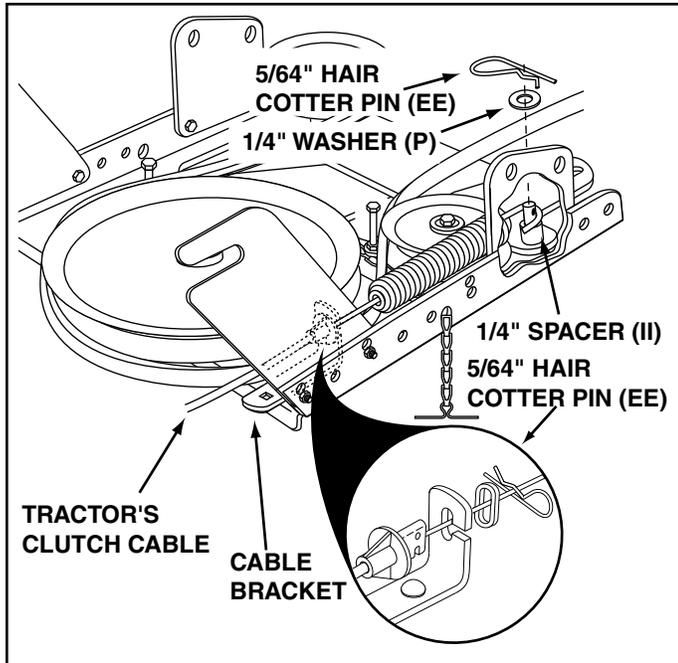

FIGURE 11
STEP 11: (SEE FIGURE 11)
- Attach the tractor's mower clutch cable to the cable bracket on the clutch/idler assembly. Secure the cable housing guide (groove down) to the cable bracket using the original collar and a 5/64" hair cotter pin (EE).
- Place the small spacer (II) on the welded pin on the idler arm. Hook the end of the clutch cable spring over the pin and secure it with a 1/4" washer (P) and a 5/64" hair cotter pin (EE).